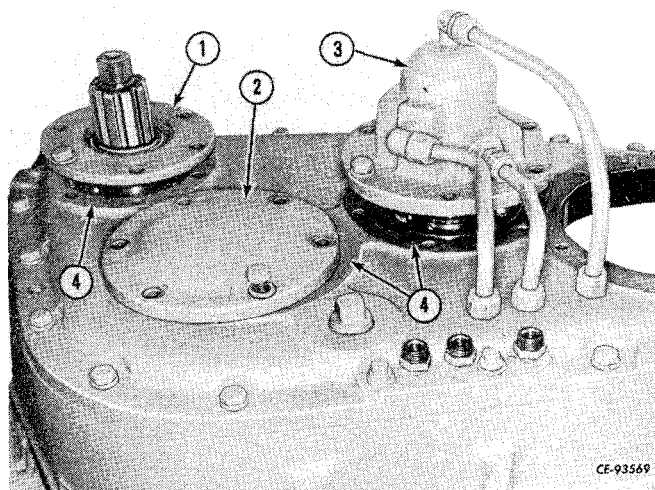

Figure 4-30
Remove the 2nd and 3rd speed manifold (3, Fig. 4-30) with lube lines. Remove the countershaft cap (2) and the input shaft seal retainer (1). Remove the gaskets (4).